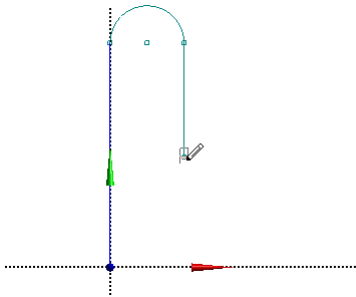

Figure 3-64 Specifying the start point of the arc
21. Move the cursor close to the end point of line 2; the symbol of Coincident constraint (P) is displayed. Click to specify the start point of arc 2, as shown in Figure 3-64.